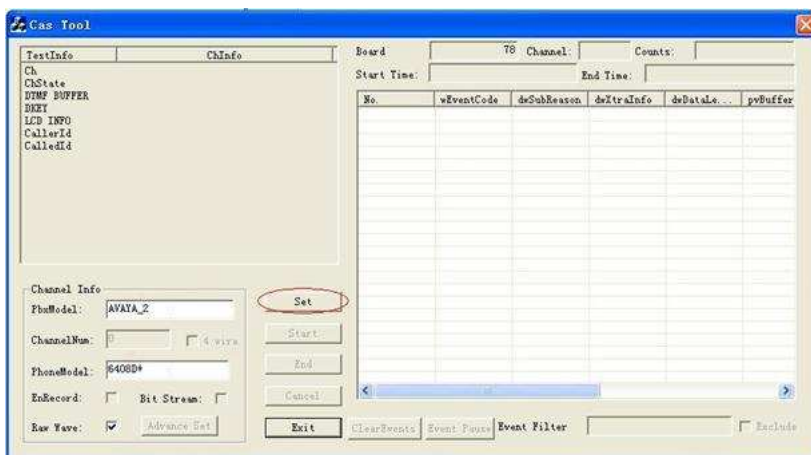

Figure 2-23
**Step 3:** Click on the button 'Set' as shown in Figure 2-23.